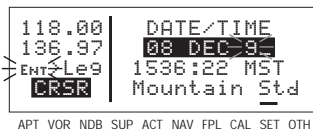

Figure 3-161
5. Move the flashing part of the cursor to the tens digit of the year field, and select the proper number (figure 3-161).